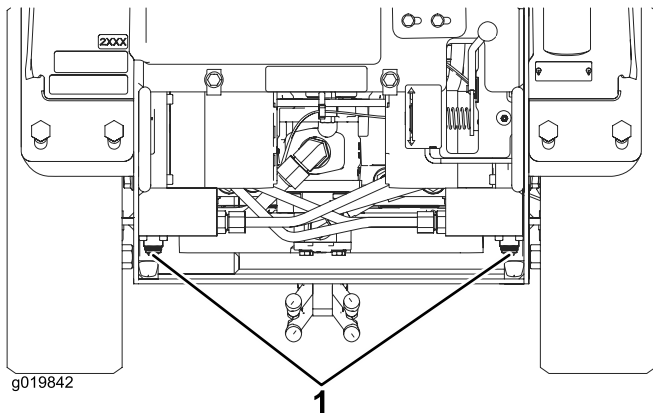

Figure 20
3. Using a wrench, turn the tow valves on the hydraulic motors twice counter-clockwise (Figure 20).